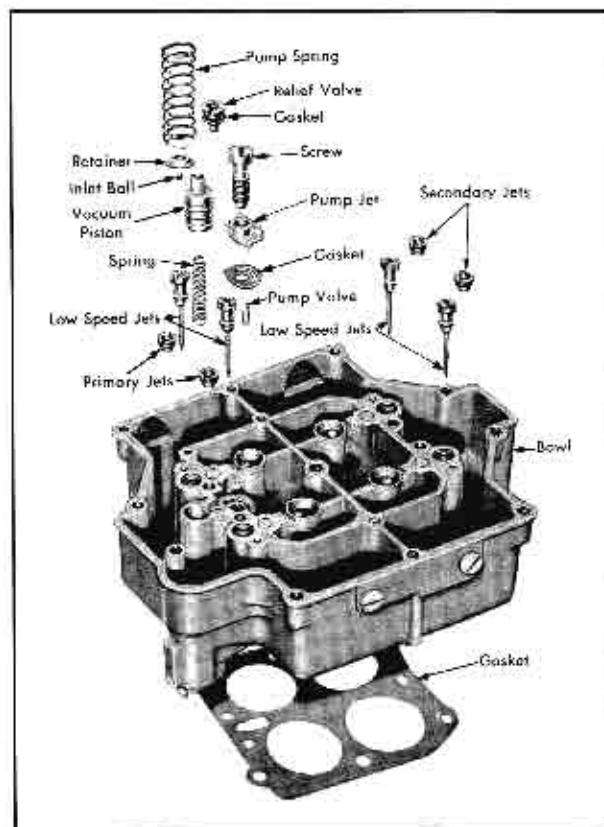

Fig. 12-56 Bowl Assembly Disassembled
end down, and install gasket, pump jet, and screw. Refer to Fig. 12-56.
2. Install the 6 inner bowl cover screws with lockwashers. The seven longest screws are installed in positions indicated in Fig. 12-56, and remaining screws in their respective places.